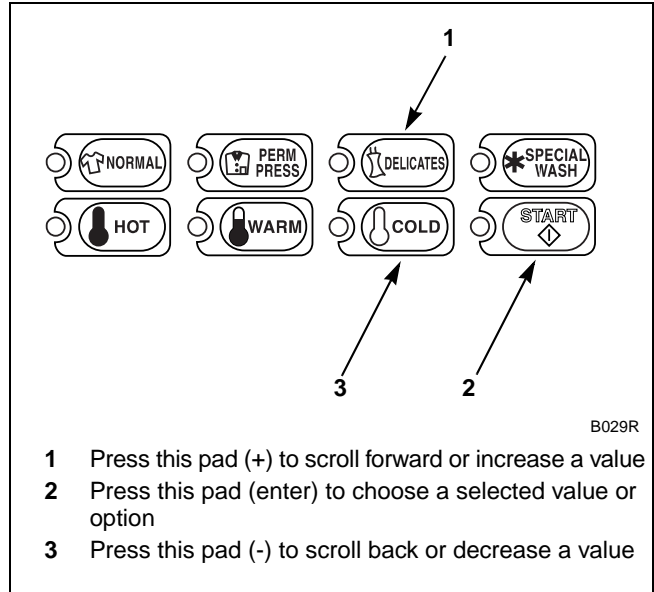

Figure 49
5. Press the DELICATES (+) or the COLD (-) keypad to increase or decrease the start month to the desired month. Refer to *Figure 49*.